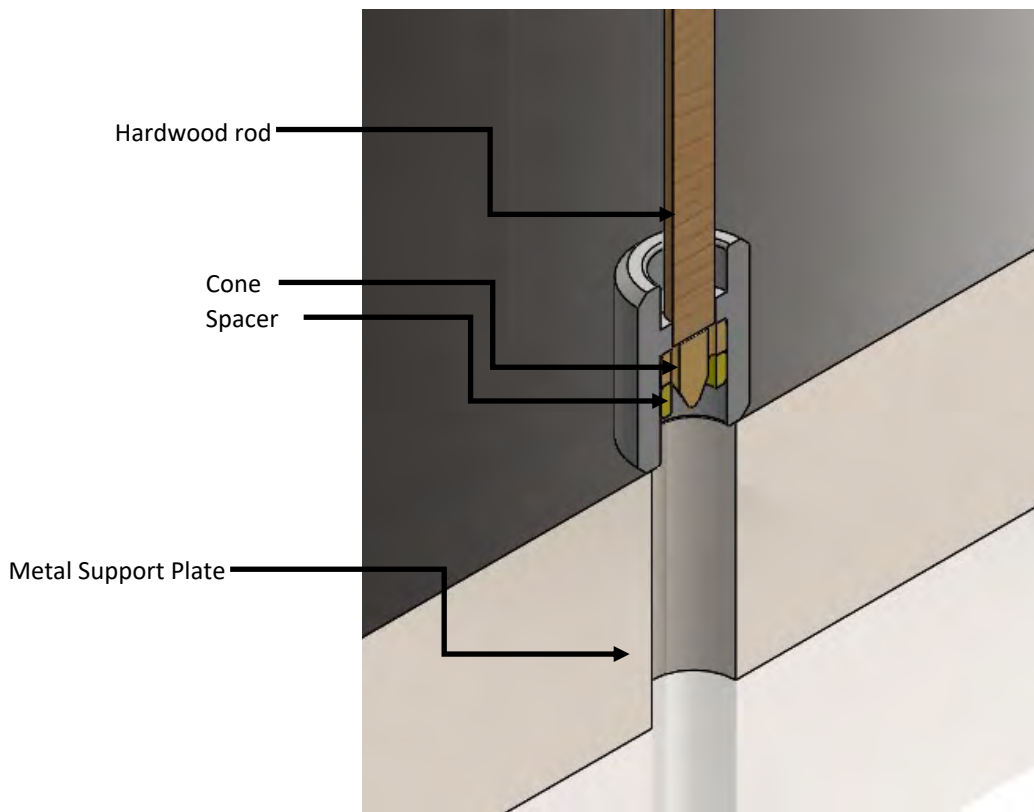

Figure A.1.1 Removing the Cone and Spacer from the Sleeve Assembly
1. To remove the “press-fitted” Cone and Spacer (figure A.1.1), place the Sleeve Assembly on a metal support plate at least 1-inch thick on an arbor press. The “point” of the Cone should be pointing down. The support plate must have an opening in it so that the Sleeve is supported, but its inside diameter is unobstructed so the Cone and Spacer can be pushed completely through and out of the Sleeve.